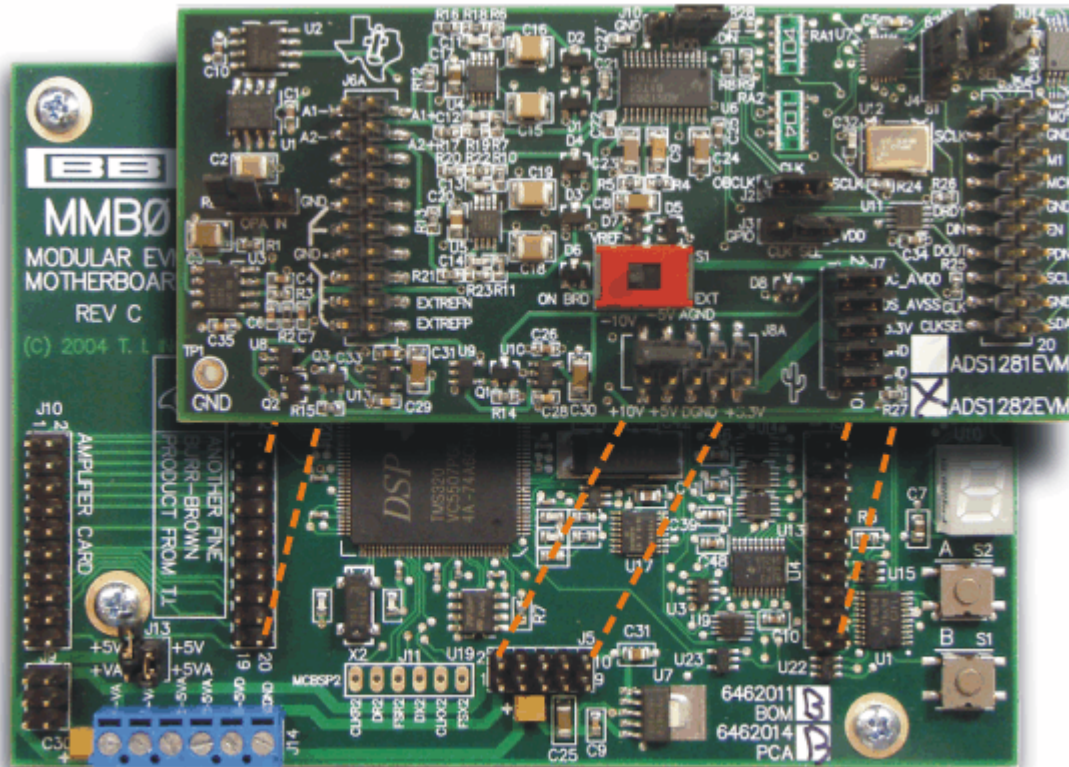

Figure 6. Connecting ADS1282EVM to MMB0
3. Plug the ADS1282EVM into the MMB0 as Figure 6 illustrates.